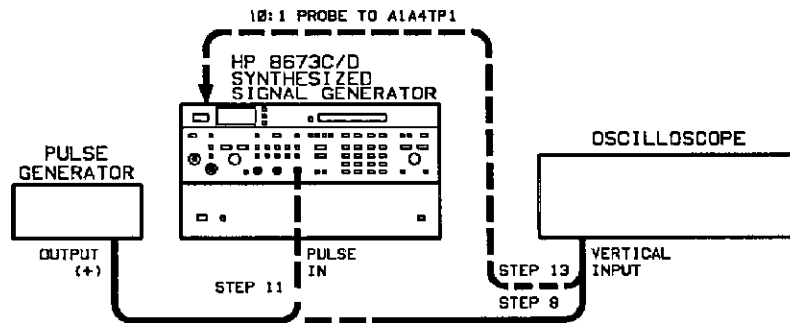

Figure 5-46. Series Pulse Width Adjustment Test Setup
1. Connect the pulse generator to the oscilloscope as shown in figure 5-46.